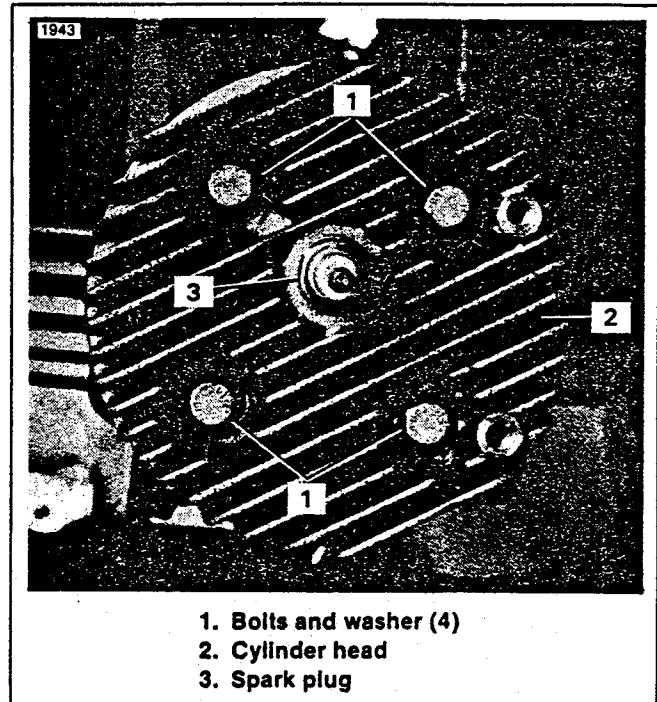

Figure 5-5. Cylinder Head Mounting
6. See Figure 5-5. Remove spark plug (3), cylinder head bolts and washers (1) and cylinder head (2).